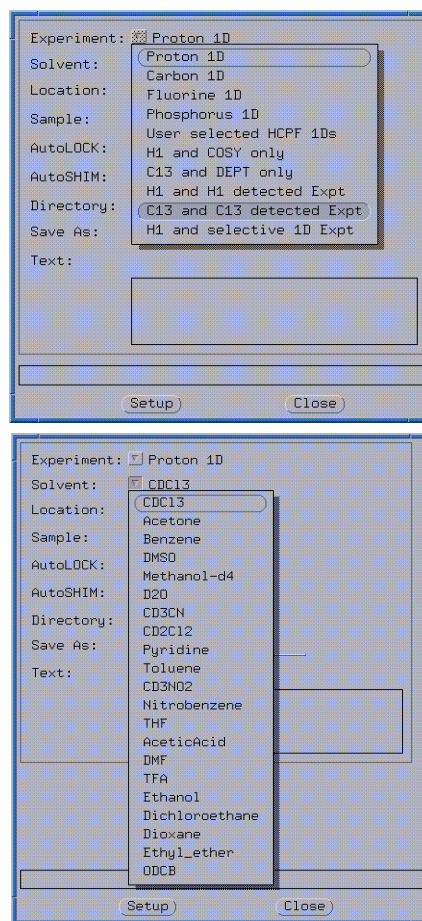

Figure 18. *GLIDE Setup* for C13 and C13 Detected Experiments
3. Right click the **Experiment** drop-down menu and select **C13 and C13 detected Expt**, as shown in Figure 18.
4. Right click the **Solvent** drop-down menu and select an appropriate lock solvent, as shown in Figure 18.